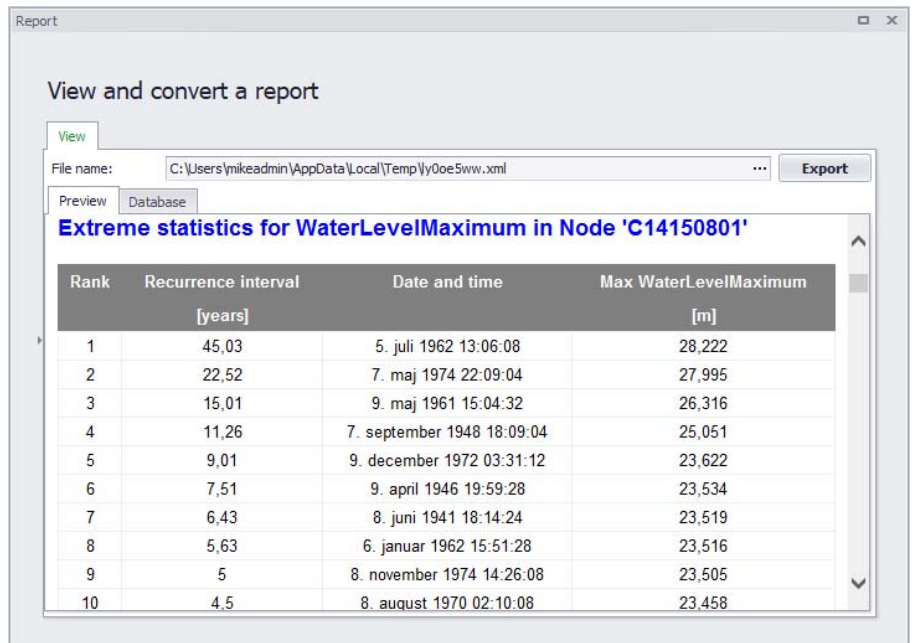

Figure 20.68 Example detailed LTS extreme event statistics report
- Click on the 'OK' button to create a new Detailed LTS Extreme Event Statistics report. An example is shown in Figure 20.68.